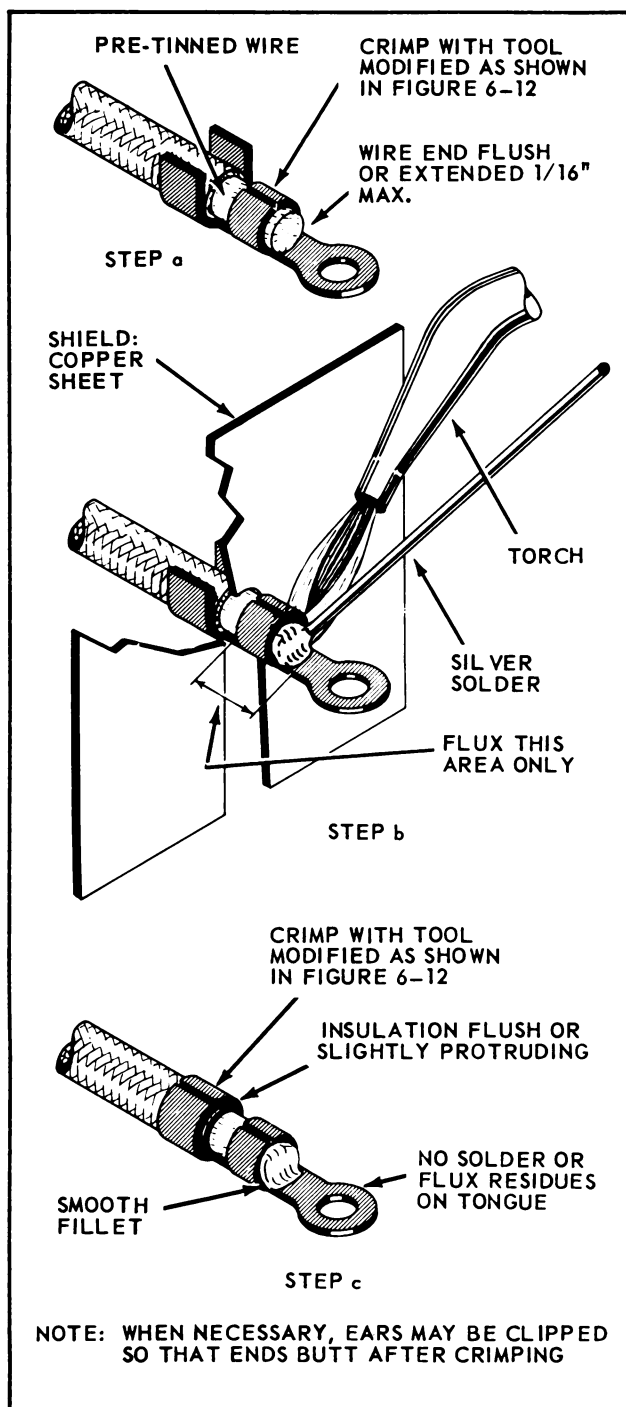
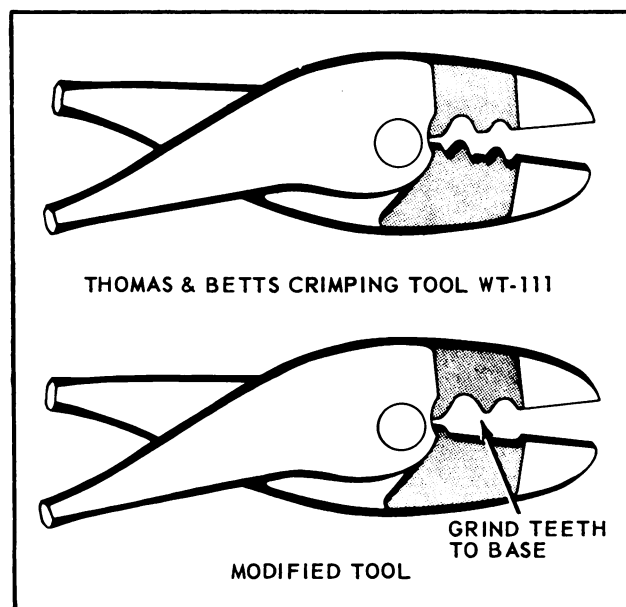

Figure 6-11. Silver Soldering Thermocouple Wire To Terminal
Figure 6-12. Modified Crimping Tool for Thermocouple Terminals
- Install terminal on wire so that insulation is flush with or protrudes slightly beyond insulation grip. The tinned portion of the conductor should then be inside the wire grip. See Figure 6-11.
- Crimp wire grip over conductor using modified crimping tool illustrated in Figure 6-12.
6-21. TORCH SOLDERING TERMINALS TO THERMOCOUPLE WIRE. See Figure 6-11.
b. Secure insulation grip on insulation using modified crimping tool shown in Figure 6-12. The final result is shown in Figure 6-11 step c.
6-24. SERVING THERMOCOUPLE WIRE. After soldering operation has been completed, and solder has cooled, serve thermocouples at the branching point as shown in Figure 6-11. Use nylon or waxed cotton cord in cool areas, and fiberglass cord in hot areas. Coat the serving with clear lacquer. The serving will prevent unraveling of the outer jacket.
a. Install terminals on thermocouple wires as described in paragraph 6-20, and illustrated in Figure 6-11 step a.
d. Bend insulation grip ears around insulation using modified crimping tool shown in Figure 6-12. Trim ears so they butt flush around small wires. See Figure 6-11 step c.